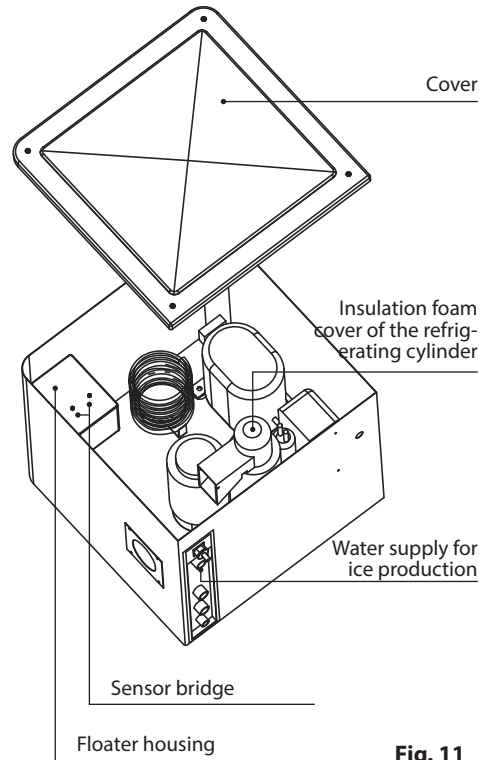

Fig. 11
4. Pull off the adhesive strip from the floater housing and open tank lid (fig 11).